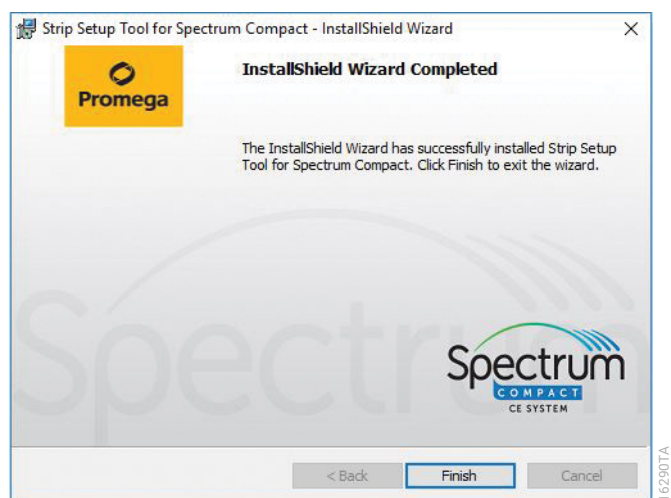

Figure 189. Ready to Install the Program window.
5. The InstallShield Wizard Completed window is displayed (Figure 189) upon successful installation of the tool. Select **Finish** to exit out of the InstallShield window.